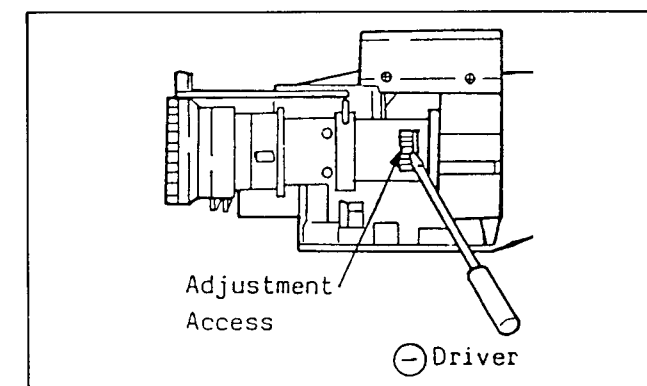

Fig. C6
- (1) Aim the Camera at the Hunting Chart in 3m distance and zoom all the way in (Fully tele position).
- (2) Focus the lens on the object.
- (3) Adjust the relay lens adjustment point as shown in Fig. C6.